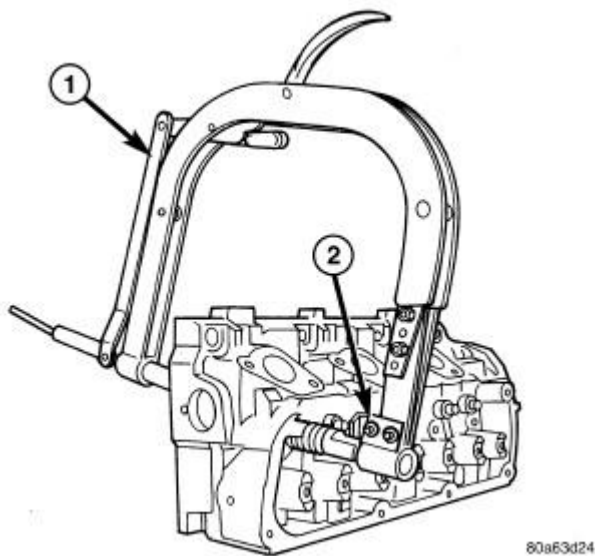

Fig. 92: Removing/Installing Valve Spring
1. With cylinder head removed, compress valve springs using Valve Spring Compressor Tool (special tool #C-3422-D, Compressor, Valve Spring) with adapter (special tool #8464, Adapter, Valve Spring). Refer to **Fig. 92**.